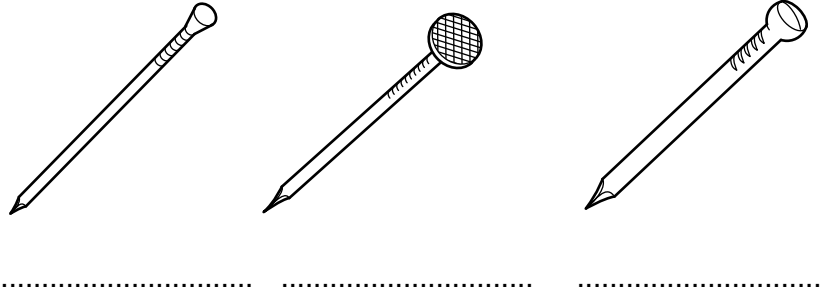

Fig. 1
- 1 Fig. 1 shows three types of nail.